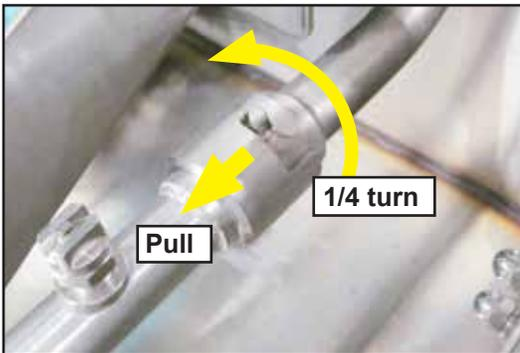

Fig. 73 -
- 1** Rotate the rinse arm 1/4 turn and pull to remove from the rinse manifold, Fig. 73.
- 2** Rotate the rinse arm 1/4 turn and pull to remove from the rinse manifold, Fig. 73.